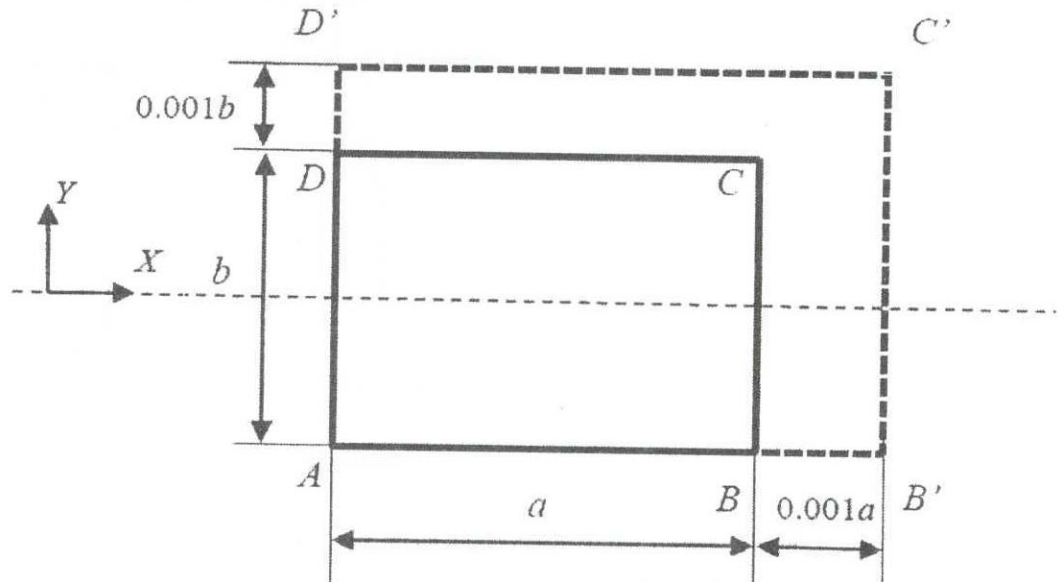

Figure Q5(a)
- Q5. a) A rectangular sheet $ABCD$ of dimensions a and b along X and Y directions, respectively, is stretched to a rectangle $AB'C'D'$, as shown in Figure Q5(a). Calculate the principle stains.